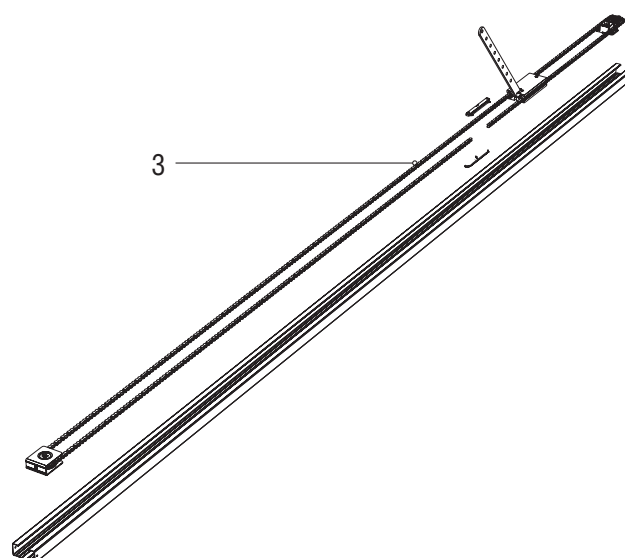

Figure 3
4. Remove a chain with a carriage mechanism, pos. 3 (Fig. 3).